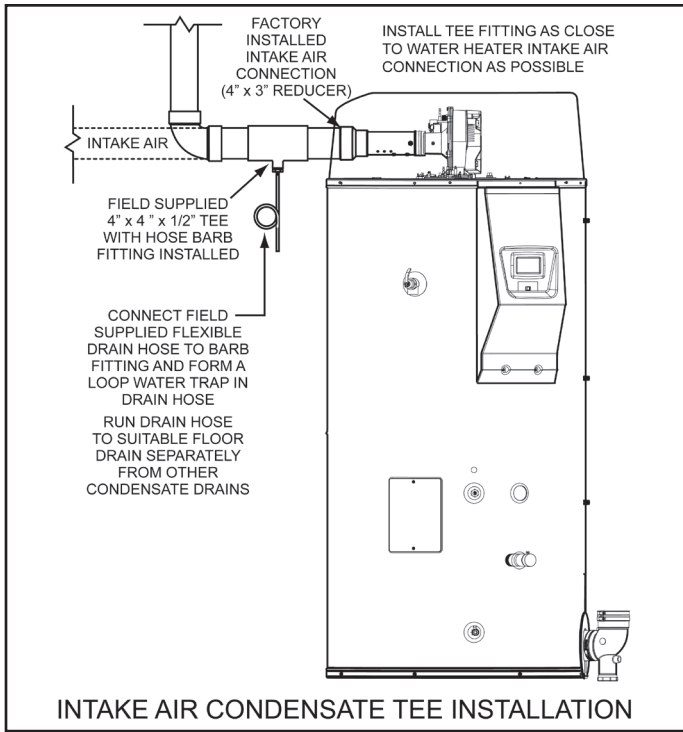

Figure 16. Condensate Tee
9. A field supplied condensate Tee fitting and drain hose must be installed in the intake air piping near the water heater in colder climates with heavy snow accumulations and in areas that regularly experience high humidity. The drain hose must be routed to an adequate floor drain separate from any other condensate drains. See Figure 16 on page 24.
Installations with any of these conditions are required to provide a moisture drain with a trap that flows to a waste drain. See Figure 16 and Figures 41-47. A horizontal section of the air inlet pipe, near the heater should include a 4" by 4" by 1/2" tee and a hose barb fitting to drain the water. The tee should be as close to the heater as is practical. The drain tubing in any installation should have a loop trap and flow to an appropriate waste drain. The air intake drain line must be entirely separate from the exhaust vent outlet condensate line.